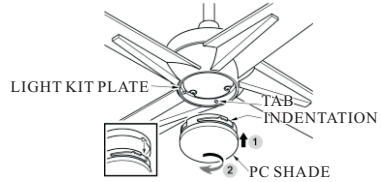

FIG.20
6. Attach the PC shade by locating tabs in light kit with grooves on the light shade and twist clockwise until tight (See fig.20)